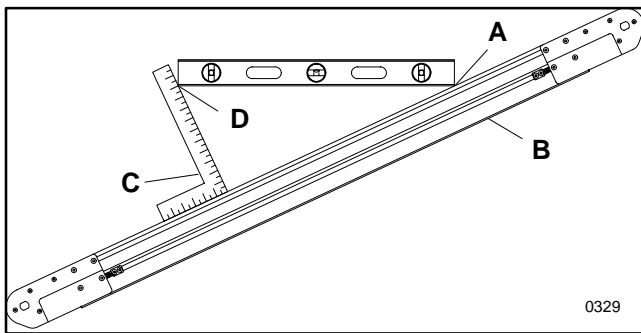

Figure 2: LPZ Section Alignment Detail
Use Dorner stands and compatible mounting hardware to squarely, straightly and securely support the conveyor. Refer to separate Metric Support Stands & Conveyor Mountings Parts, Assembly & Maintenance Manual, for additional information. When properly set-up, each conveyor section must be free of any twist, regardless of overall conveyor length, width and/or configuration. This is done by checking the alignment of the side rails. One method of checking rail alignment is as follows (refer to Figure 2):
1. Place the corner of the level (A of Figure 2) against the upper end of the side rail (B) (on either side of the conveyor). Re-position the level until exact horizontal is obtained.
2. Place a square (C) along the lower end of the side rail (on same side as level) and measure the distance (D), at right angle from the conveyor to the edge of the level.